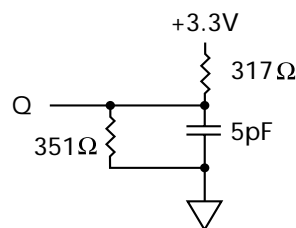

Figure 2
3. This parameter is measured with the output loading shown in Figure 2.